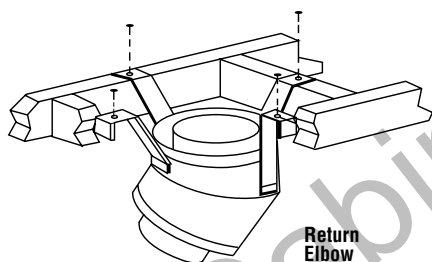

Figure 42
Step 5. Secure support straps to framing members by nailing under tension in sheer (Figure 42).